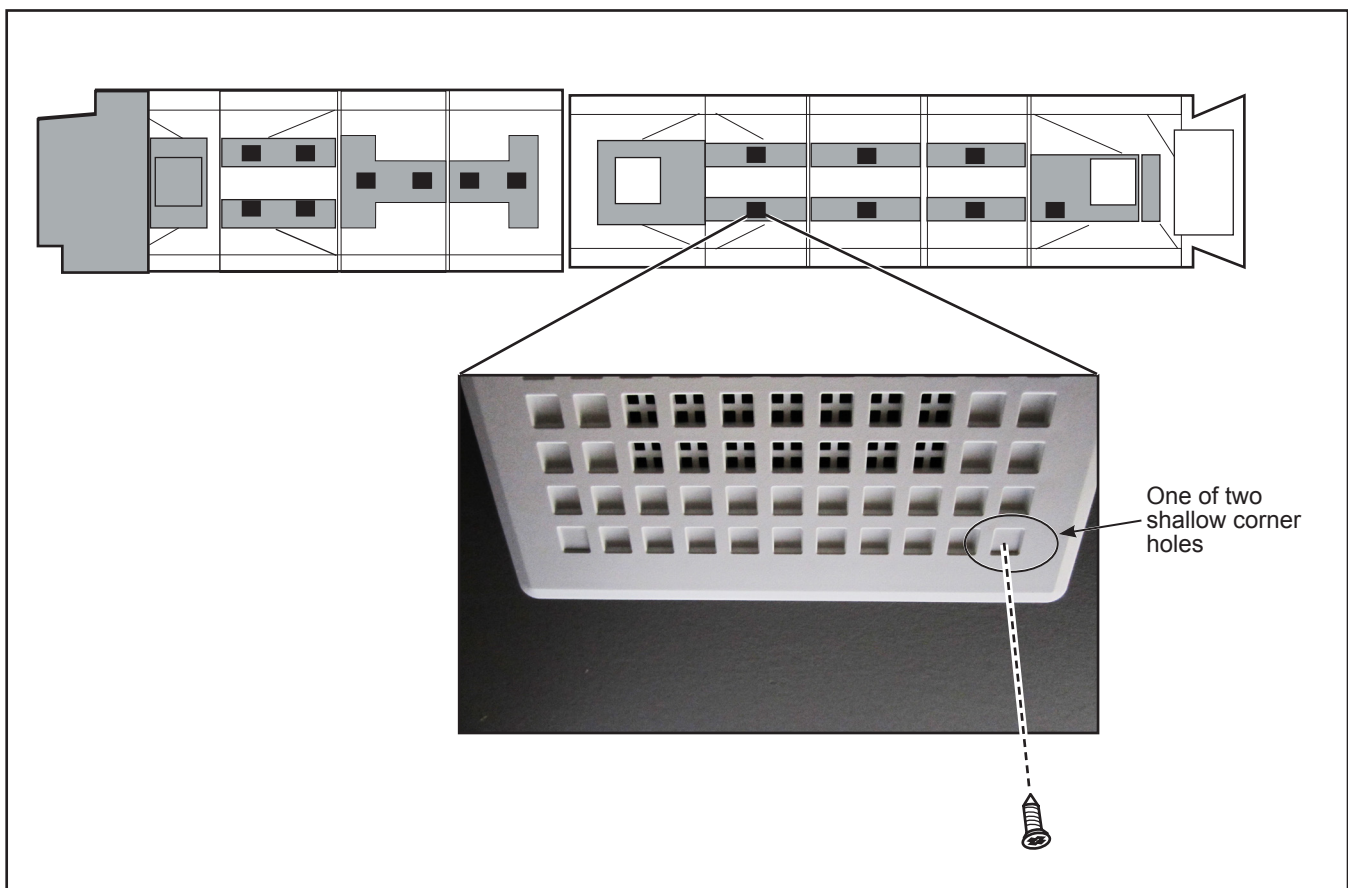

Figure 1 - Plan showing location and installation of speaker/camera tiles on a bus (typical)
- 1.1. Locate the ceiling speakers and cameras. See Figure 1.
- 1.3. Drive self-tapping screw 0449213 into one of the two shallow corner holes of the tile. Make sure the screw is well seated and there is no gap between the tile flange and the ceiling. See Figure 1.